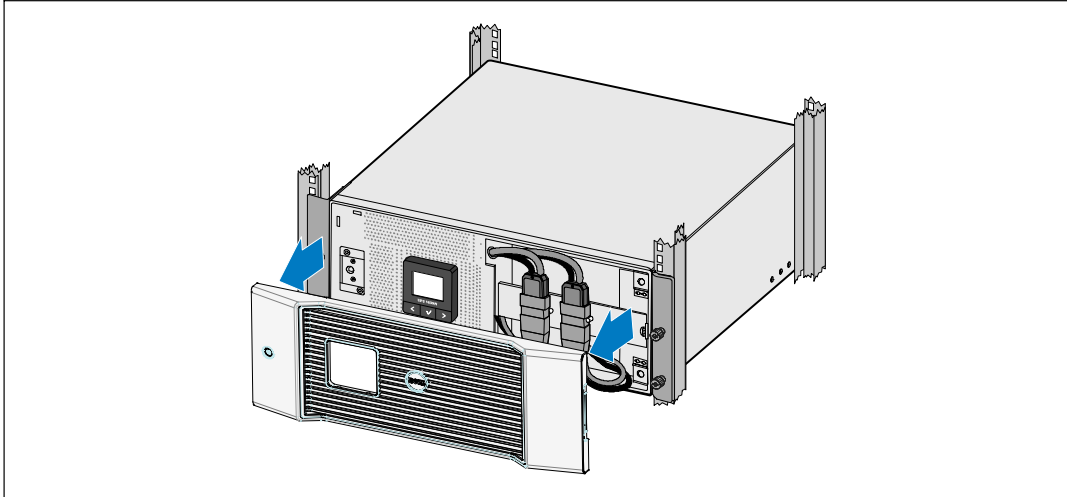

Figure 25. Removing the UPS Front Cover
- 3 Remove the UPS front cover (see Figure 25).